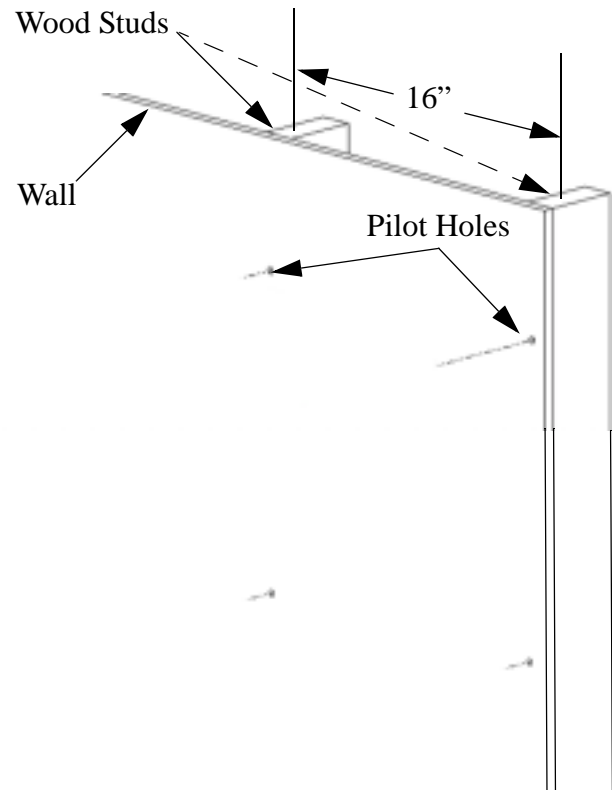

Figure 1. Two Wood Studs 16" Apart On Center
6. Drill two pilot holes using a 7/32" drill bit where the mounting holes were marked for anchoring the top bracket. See Figure 1.